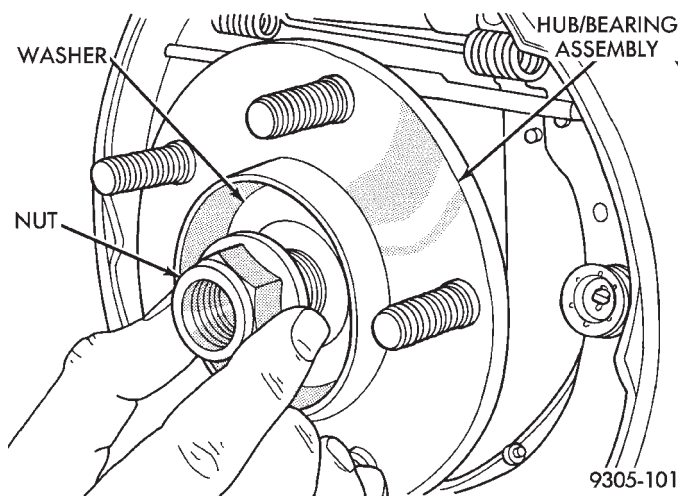
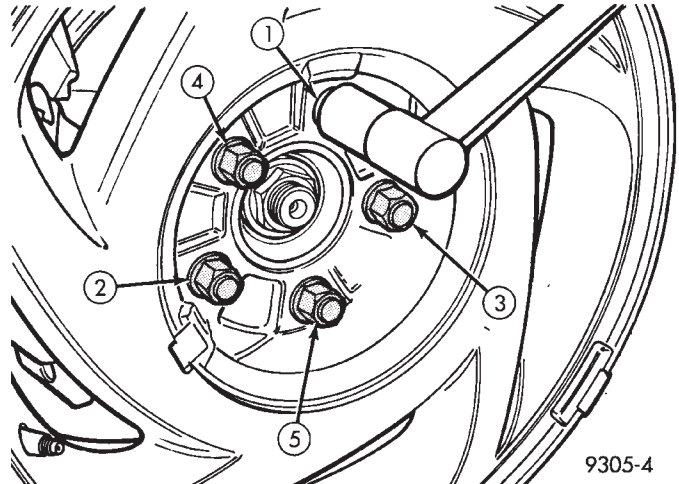

Fig. 6 Rear Hub And Bearing Retaining Nut Removal
Fig. 9 Tightening Wheel Nuts
(3) Remove the rear hub and bearing assembly retaining nut and washer (Fig. 6). Remove rear hub and bearing assembly from spindle.
(1) Insert parking brake cable and housing end fitting into brake support plate.
(2) Install support plate and gasket on rear suspension knuckle casting. Torque support plate to knuckle casting attaching bolts to 115 N•m (85 ft. lbs.).
(3) Attach cable to parking brake lever.
(4) Connect brake hose tube to wheel cylinder and attach bracket to support plate. Tighten brake tube to wheel cylinder fitting to 17 N•m (145 in. lbs.).
(5) Install brake drum and wheel. Adjust and bleed service brakes. Adjust parking brake.
(6) Install rear hub and bearing assembly on rear spindle. Install hub and bearing assembly washer and retaining nut (Fig. 6). Torque hub and bearing assembly retaining nut to 168 N•m (124 ft.lbs.). Install dust cap.
(7) Adjust brake shoes assemblies so as not to interfere with brake drum installation.
(8) Install rear brake drum on the hub. **After brake drums are installed pump brake pedal several times to partially adjust the brake shoe assemblies.**
(9) Install the wheel and tire assembly. Tighten the wheel mounting stud nuts in proper sequence (Fig. 9) until all nuts are torqued to half specification. This is important. Then repeat the tightening sequence to the full specified torque of 129 N•m (95 ft. lbs.).